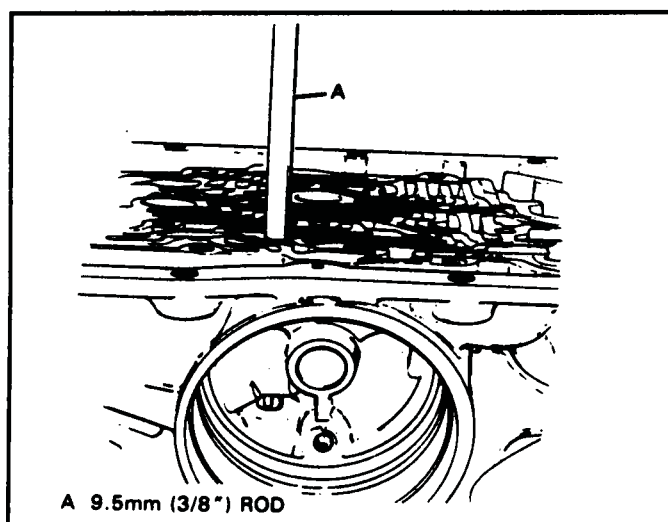

Figure 41
5. Seat the checkball capsule using a 3/8" diameter metal rod or pin punch (See Figure 41).